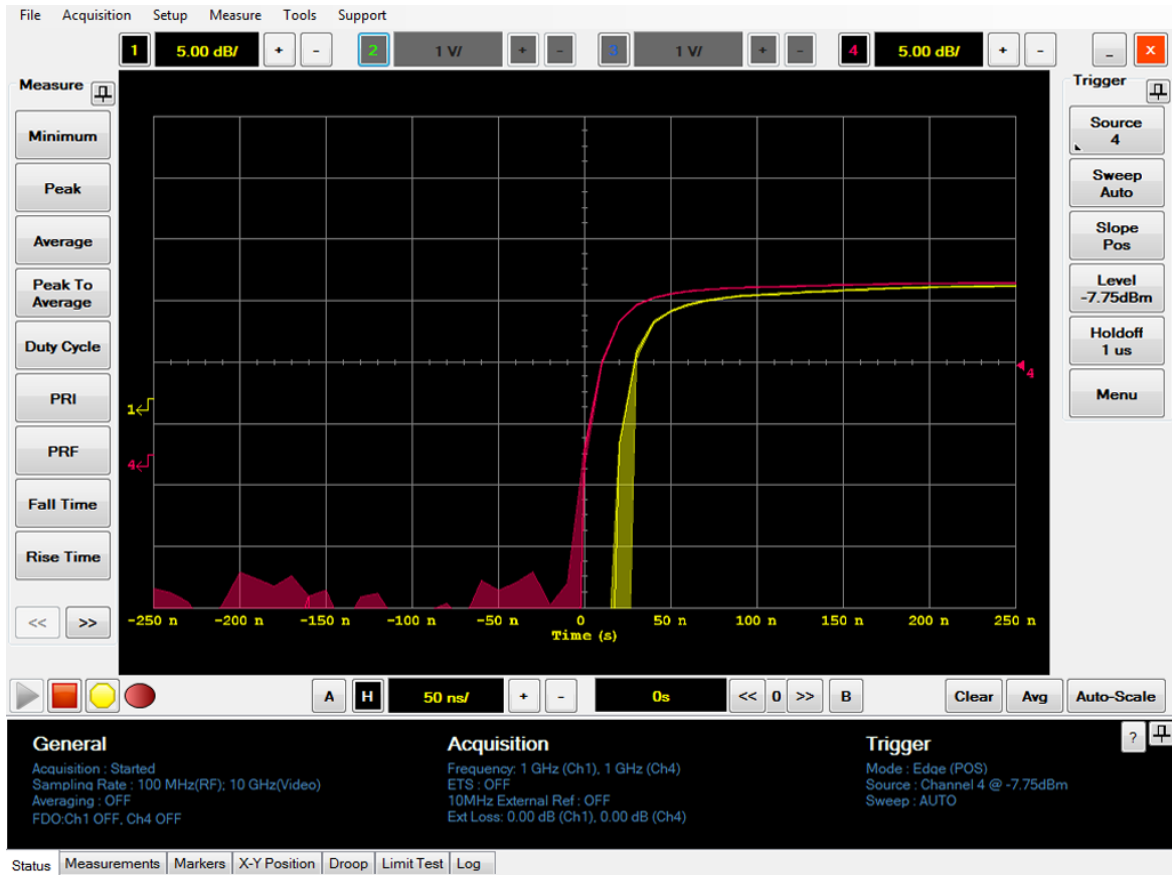

Figure 2-161 Example of the waveform display with the waveform minimum and maximum tracking feature enabled
- 4 An example of the waveform display with the waveform minimum and maximum tracking feature enabled is as shown in Figure 2-161.